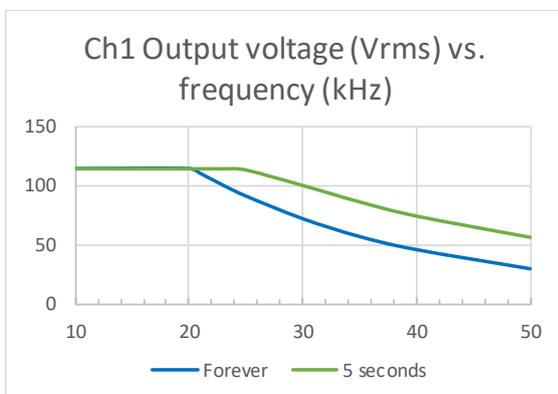
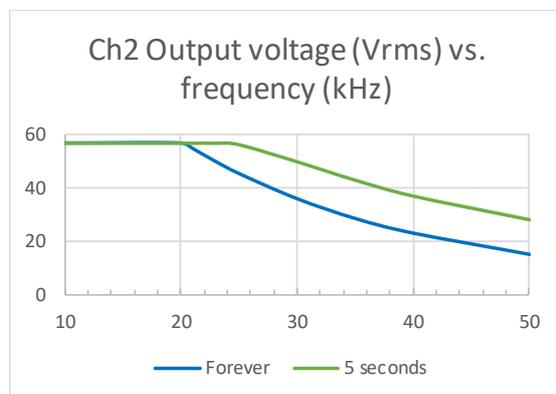

Figure 3-19: Max Vout vs. frequency vs. time (Ch1)
Figure 3-20: Max Vout vs. frequency vs. time (Ch2)
**HF Protection** - A high frequency protection is implemented to protect the amplifier output filter components from overload - refer to *Figure 3-19 and Figure 3-20*. If a high frequency (and high amplitude) signal is present for a longer period, the module will enter HF protection and mute (both) amplifier output(s) until the internal protection timing allows the module to re-enable the amplifier(s).